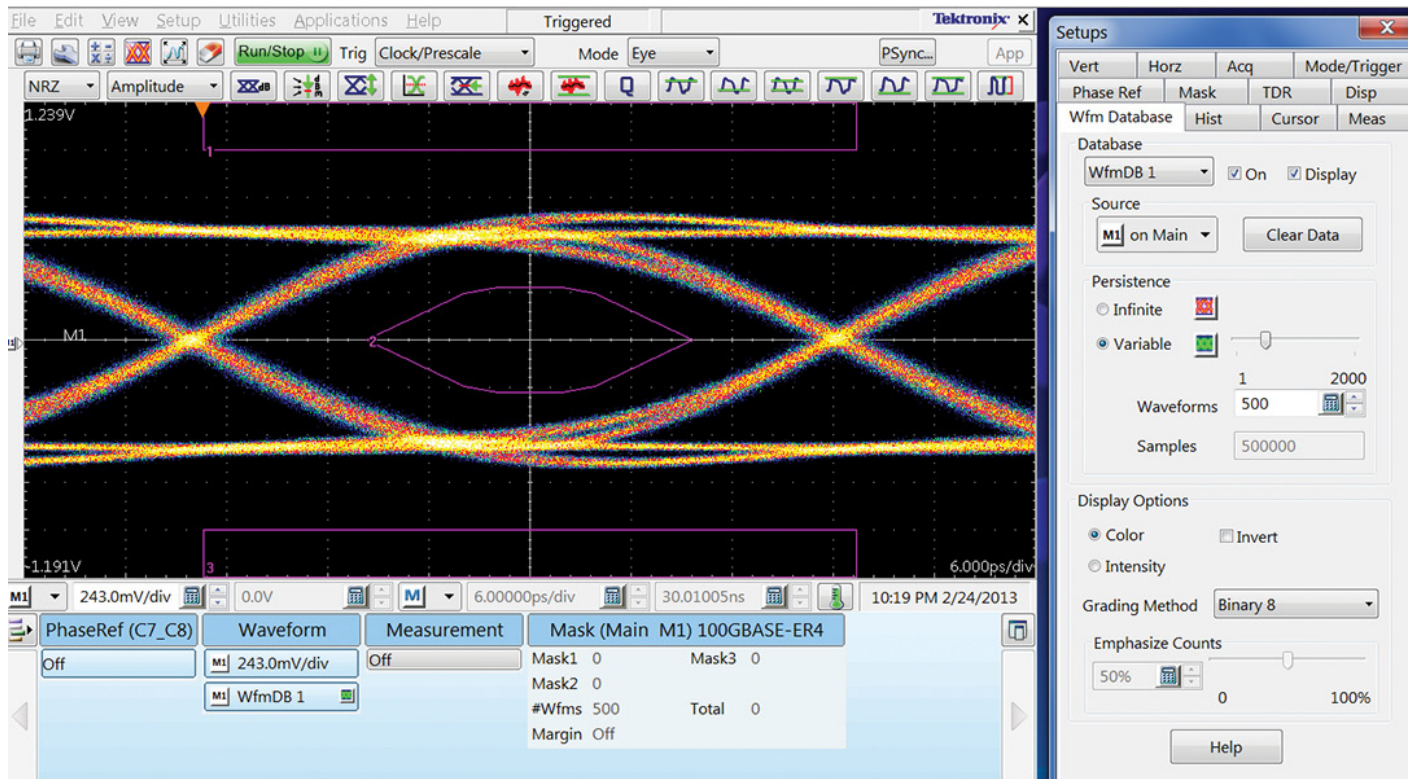

Figure 14. Eye Diagram view.
- Observe an eye diagram similar to Figure 14.